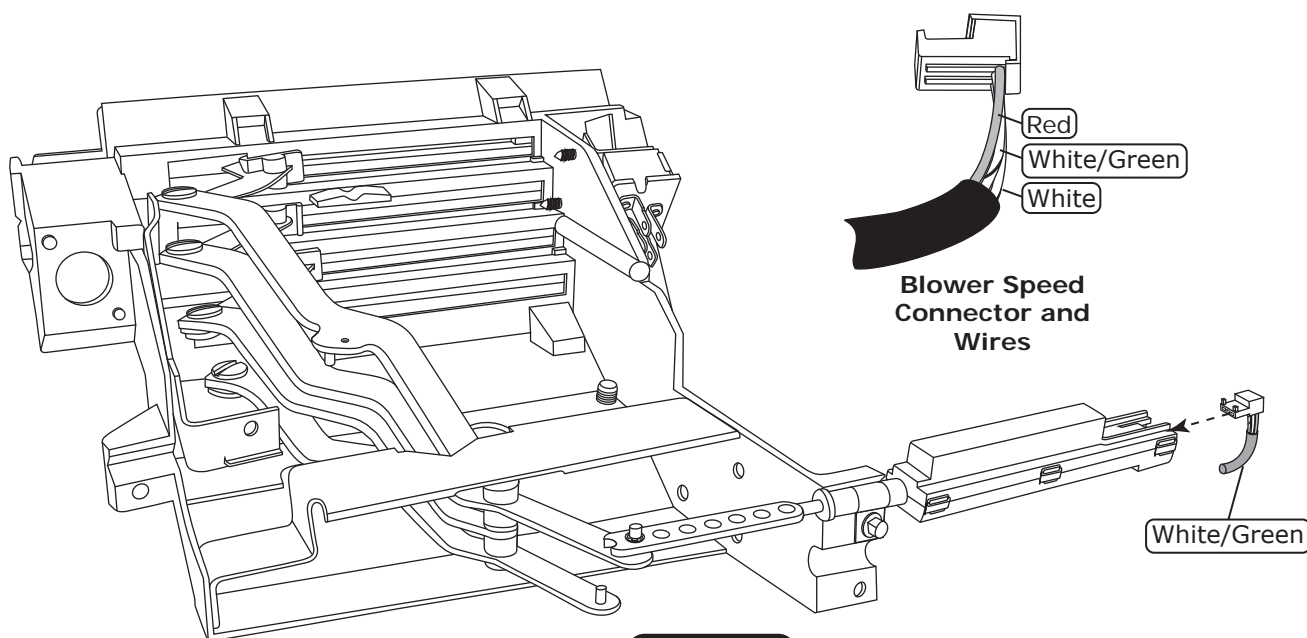

Figure 5
1. Locate the control panel wiring harness, and plug the corresponding connector into the correct cable converter assembly as shown in Figure 5, below.